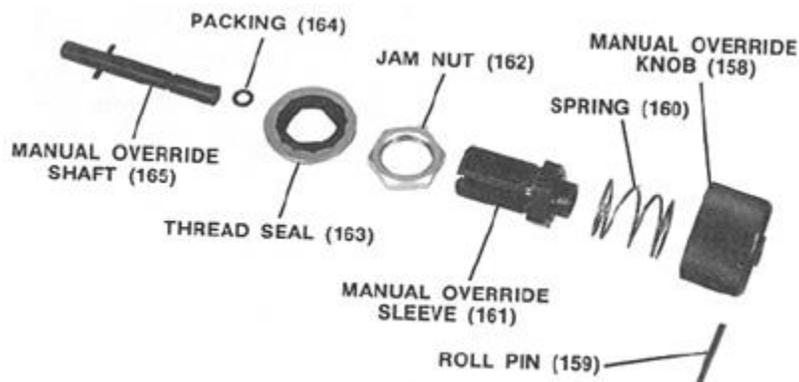

Figure 5-40. Manual Override Parts Layout
Assemble the manual override in the order shown in Figure 5-40. To hold the assembly together compress the assembly and insert pin (159) through knob (158) and through the top of shaft (165). Assemble the unit into the case top.